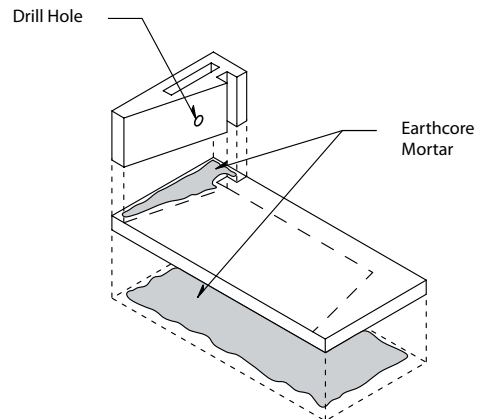

Figure 7
**Step 2:** Set the first course of the firebox back wall and side walls into place on the base plate. (Figure 7)